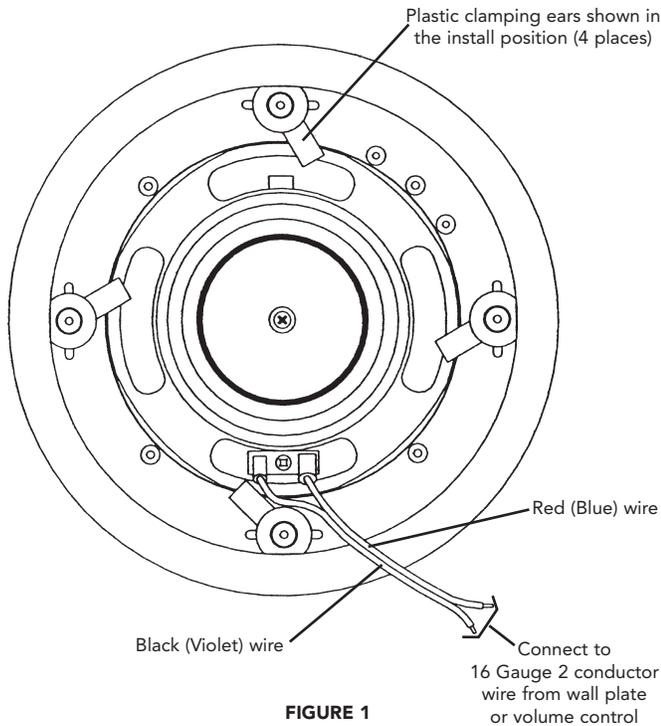

FIGURE 1
Step 2 Remove the red & black wire pigtail (some speakers may be supplied with wires soldered to the terminals which should not be removed) from the speaker terminals and connect to the red & black (or Blue & Violet) wires from the speaker wire using wire nuts. Be sure that the red(blue) wire (+) is connected to the red(blue) (+) pigtail lead and that the black(violet) wire (-) is connected to the black(violet) (-) pigtail lead as shown in figure 1. Reconnect the slip-on connectors to the speaker terminals. Note that one terminal is larger than the other to insure proper phasing.